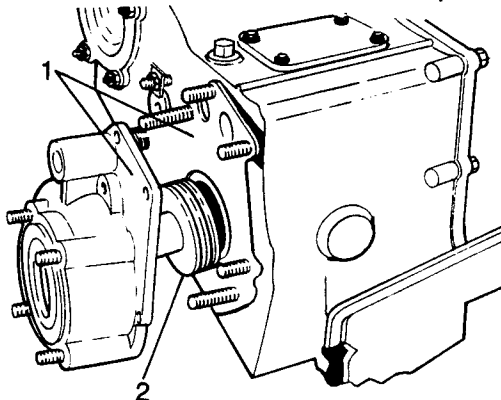

Fig H1.15
(1) Refer to Fig H1.15. Replace the speedometer drive (2).
(2) Fit the speedometer cover together with its shims (1).